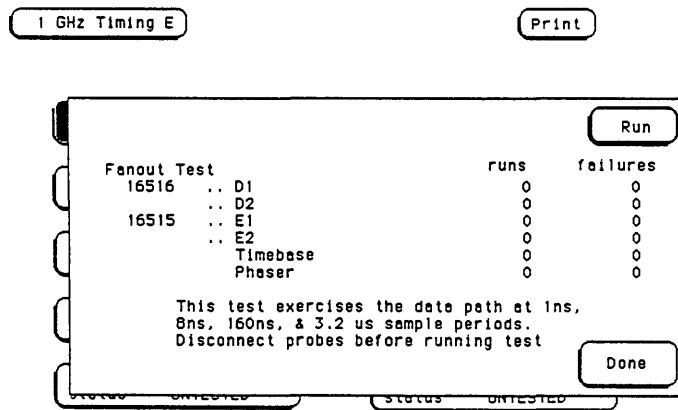

Figure 6-8. Fanout Test Run Screen
- An individual test run screen, see figure 6-8, will give the test name, a brief description of the test, number of test runs, and test failures for each slot/pod .